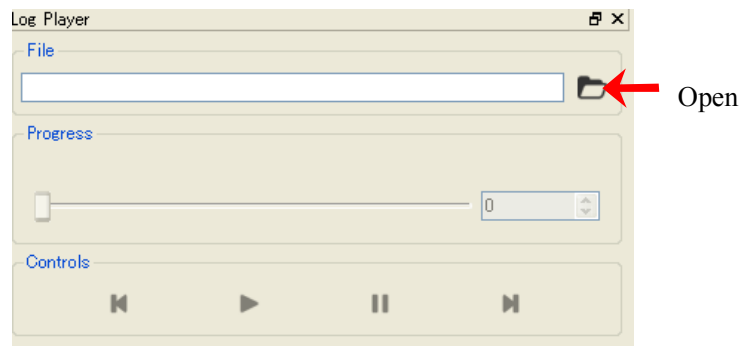

Figure 3-16 Log player windows
- ② Log player is displayed as shown in figure 3-16.
- ③ Use control buttons as required as shown in figure 3-16.